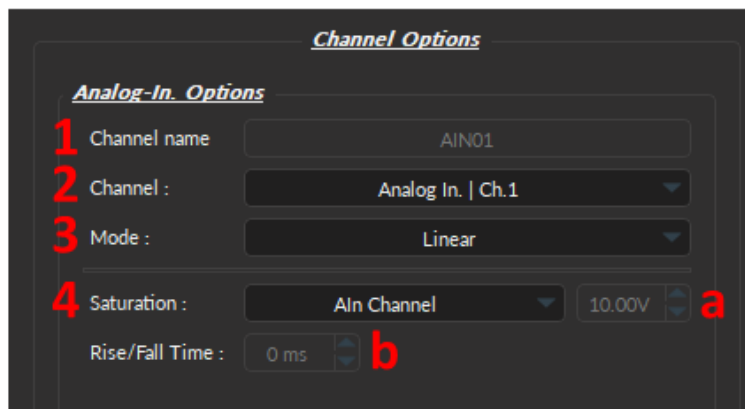
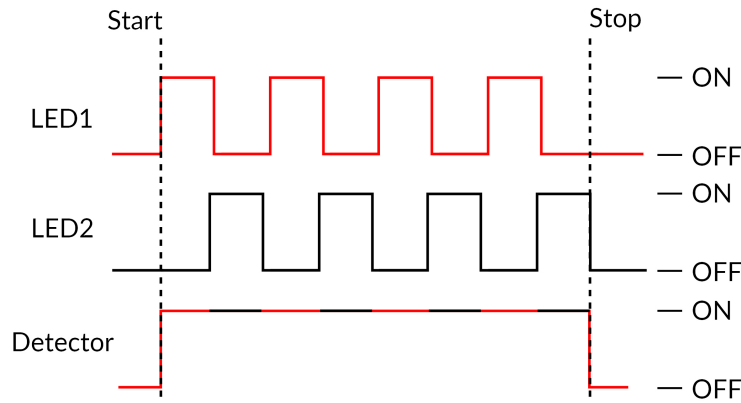
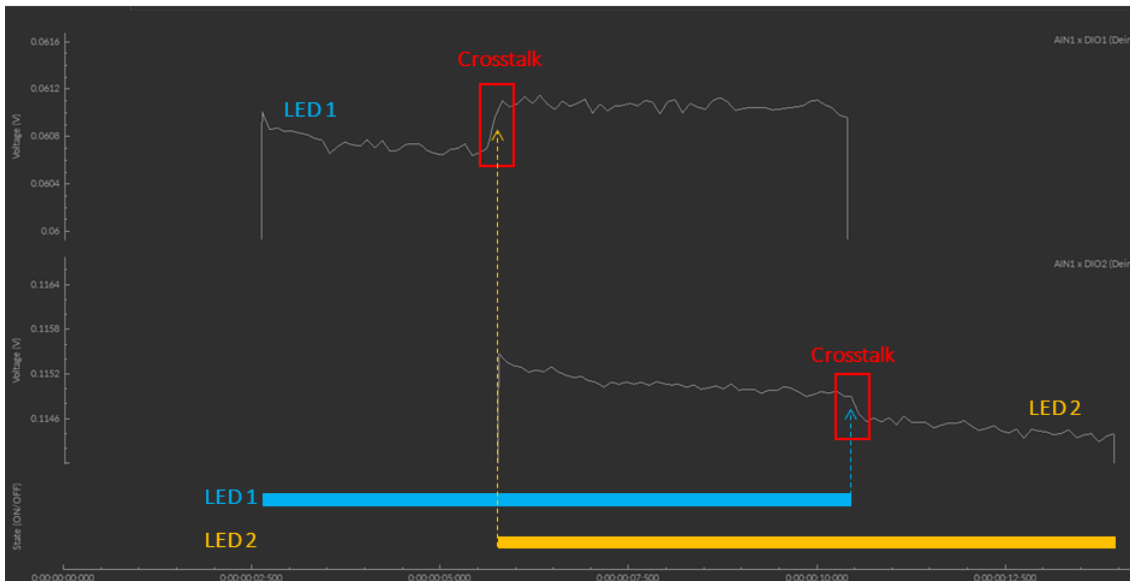

Figure 9.33: Channel(s) configuration window, Analog Input - Channel Options
Figure 9.35: Interleaved Acquisition Timing Diagram
Figure 9.36: Interleaved Cross-talk
The **Channel Options** (Fig. 9.33) defines the channel, source and mode of the digital signal, as following:
1. The **Channel name** (Fig 9.33, 1) allows user to specify a label for each channel.
2. The **Channel** (Fig 9.33, 2) identifies which of the channels available for each channel type is currently being modified. The channel can be changed by selecting a new one from the drop-down list. Each numbered channel on the physical console corresponds to the same number of the digital channel within the software.
4. The **Saturation** (Fig. 9.33, 4) automatically sets the following parameters and depends on the detector acquiring the data (Detectors: *Doric detector*, *Newport Detector*, *Hamamatsu C10709*, and *Aln Channel*):
- a) The **Maximum Voltage** (Fig. 9.33, 4a)
- b) The **Rise/Fall Time** (Fig. 9.33, 4b)
The **Interleaved** channel mode allows two channels to send an alternating pulsed signal of opposite phase for two separate light sources. Each source can excite a different fluorophore, which allows the detection of two separate fluorescence signals coming from the same sample using a single channel (Fig. 9.35).
The interleave preset is using 50% duty cycle for each LED, without delay between them (Fig. 9.35). Thus, depending on the Rise/Fall time of the detector in use (Fig. 9.33, 4b, Detector Rise/Fall Time), there will be more or less crosstalk between the interleaved channels (Fig. 9.36).
Specifically, when one of the digital channels is ON, it will pick up when the other is turn ON or OFF (Fig. 9.36). Figure 9.36 shows how the Digital Output channel of LED 1 has a small increase in voltage when the LED 2 is turned ON. And, conversely, there is a small dip in voltage in the LED 2 channel when LED 1 is turned OFF (Fig. 9.36).
that left most column = AOUT1). Users should enable the output(s) channels that will be driving the input specified in Fig. 9.33, 2.
- The **AIN #** corresponds to the console Analog In port number that receives the raw (non-demodulated) signal from the detector. To change the **AIN #**, select a different **Channel** number from the **Analog In Options** box (Fig. 9.33).